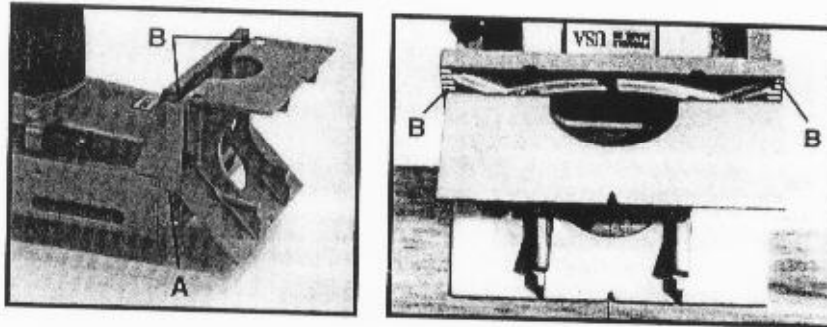

Fig. 12
2. Assemble auxiliary fence in the inverted position as shown in Fig. 12 (see TO INSTALL AUXILIARY FENCE, on page 7 of this manual).
3. Position fence so that point (A) Fig. 12 (tangent point where 45° fence surface meets front of machine base), is a distance above the bottom surface of base equal to the material thickness plus $\frac{3}{8}$ ".
NOTE: The auxiliary fence must be positioned with bottom surface parallel (side to side) to the bottom surface of machine base. Align the top of the fence with corresponding points on the two scales (B) Fig. 12 to assure parallelism.